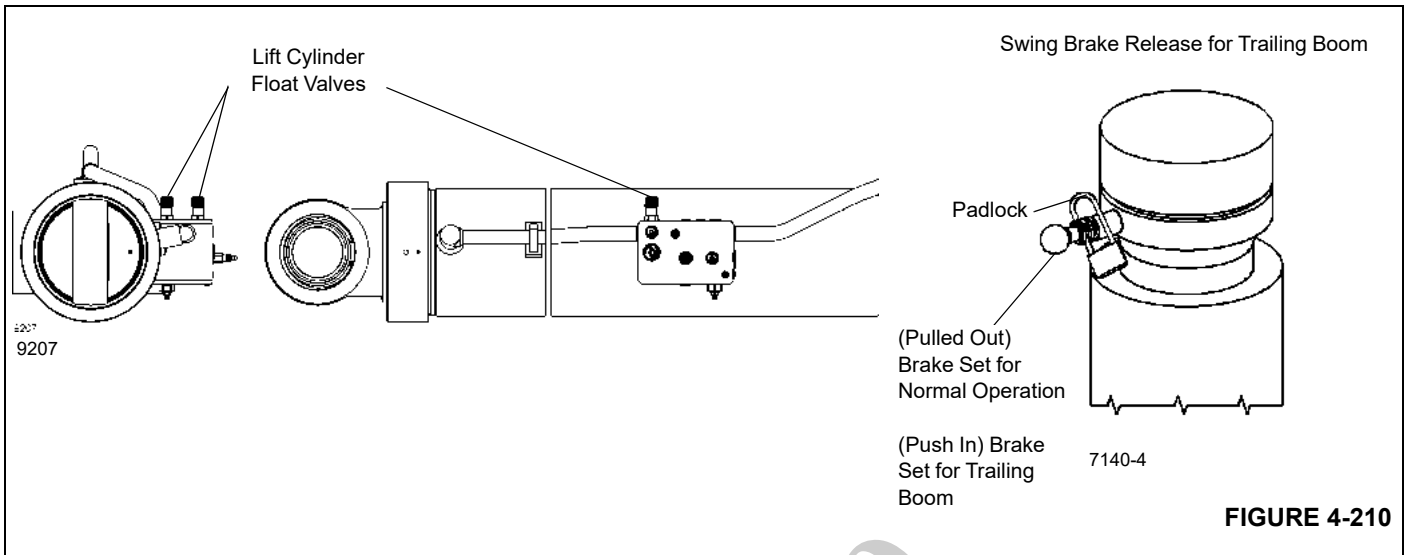

FIGURE 4-210
11. Turn the lift cylinder float valves counterclockwise to open them for trailing boom operation as shown in (Figure 4-210).